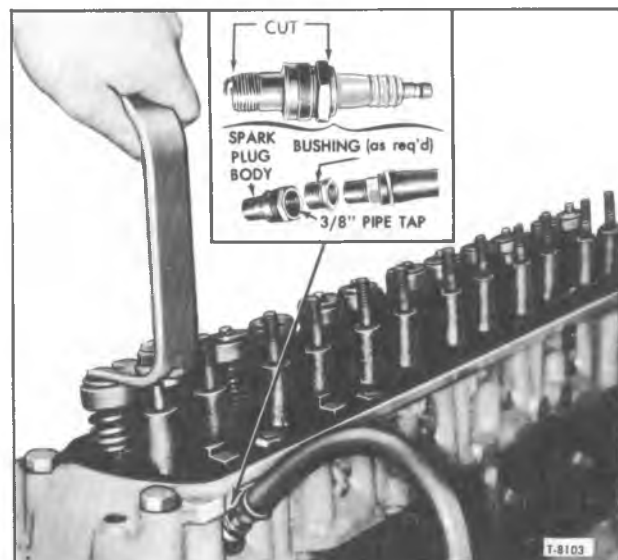

Figure 15—Using Special Tool and Compressed Air to Remove Valve Spring
NOTE: An adapter can be made from a discarded spark plug by removing electrode and cutting top of metal body as shown in figure 15. Thread the upper cavity with 3/8-inch pipe tap.
4. Using Tool (J-5892) (fig. 15) to compress the valve spring, remove the valve locks, valve cap (or rotator), valve shield and valve spring and damper.